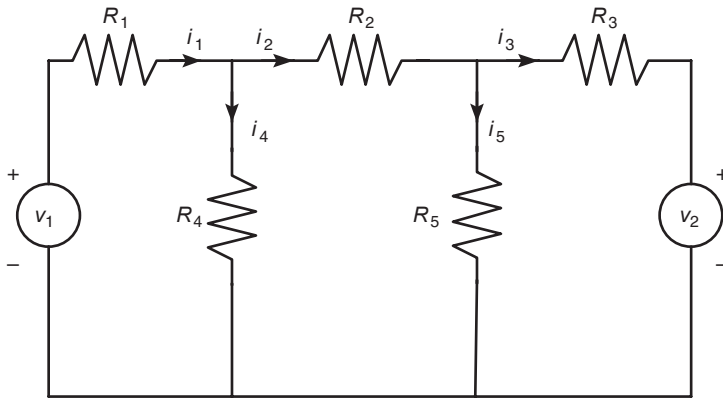

Figure P12
12. The currents  $i_1$ ,  $i_2$ , and  $i_3$  in the circuit shown in Figure P12 are described by the following equation set if all the resistances are equal to  $R$ .